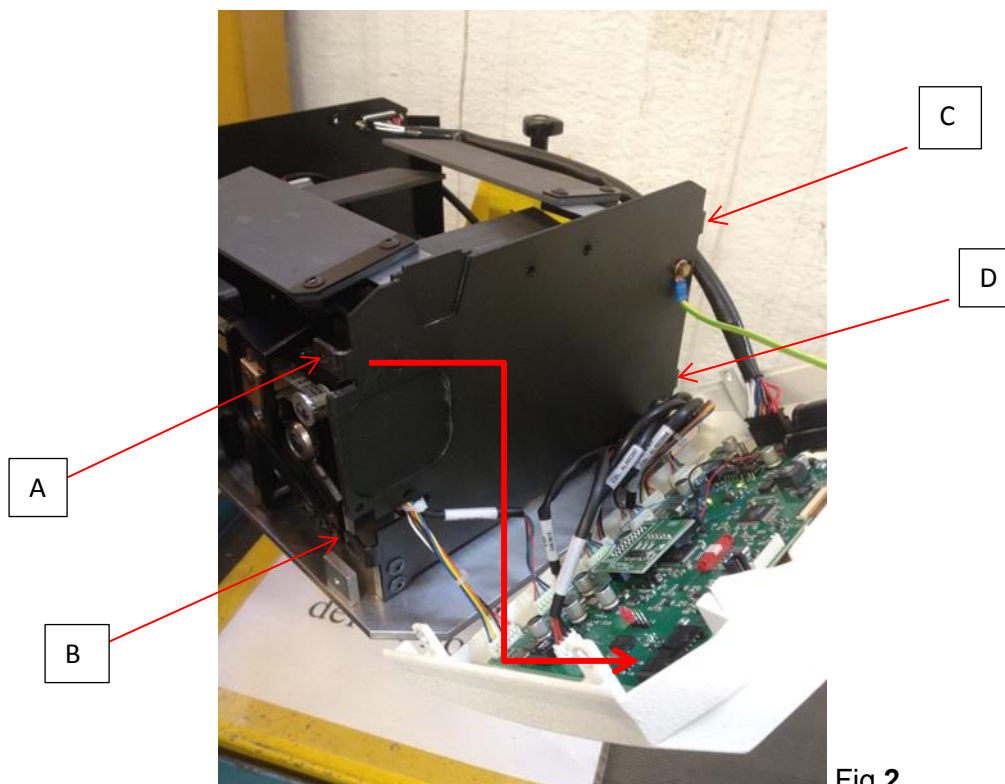

Fig 2
2. Remove the collimator covers and loosen the front cover with the board and connectors by removing the screws **A**), **B**), **C**), and **D**) in fig.2